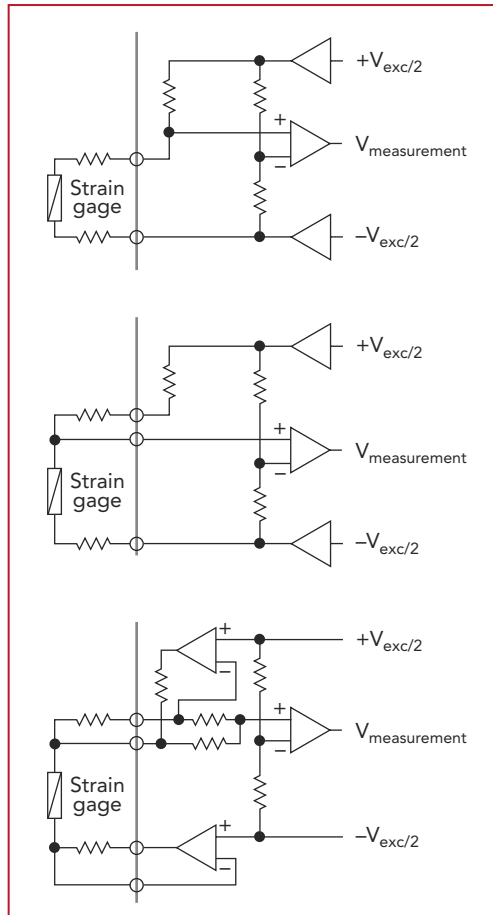

FIGURE 1. You should choose an amplifier that accommodates two-wire (top), three-wire (middle), and four-wire (bottom) hookups.
- Be sure the amplifier can handle two-, three-, and four-wire hookups (**Figure 1**). These circuit arrangements with the strain gages can improve accuracy where long cables between gage and amplifier cannot be avoided. (See more about cables under “Installing a system,” below.)